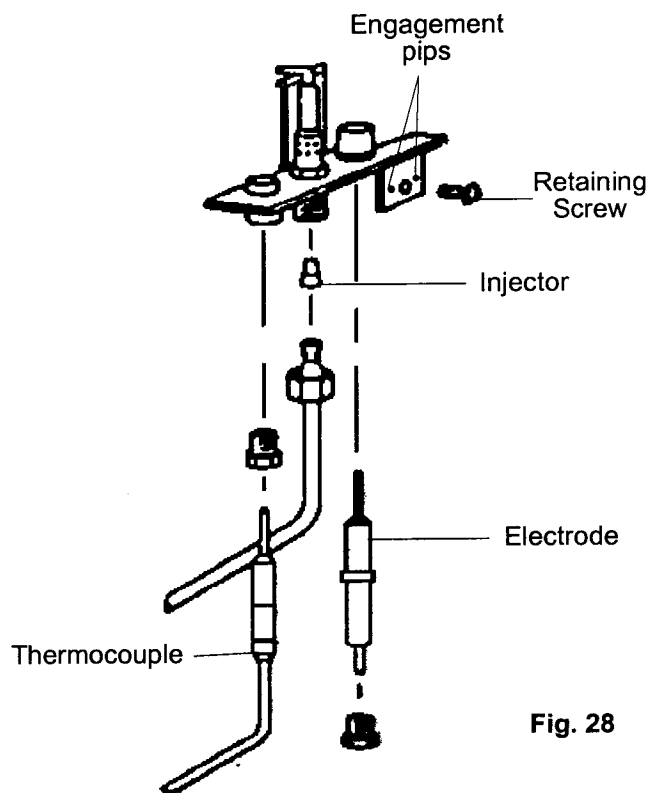

Fig. 28
Refer to fig. 28
- 8.6.3.3** Release retaining screw securing pilot assembly. (fig. 28)